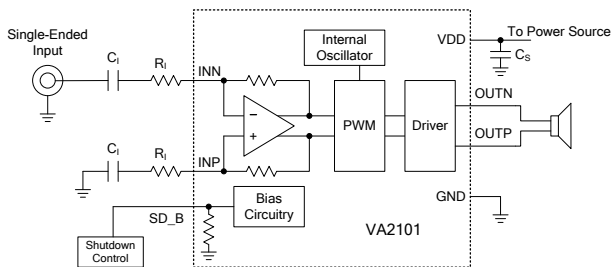

Figure 4. Single-Ended Input Configuration
The VA2101CSG9 can also be used with single-ended signal sources, but input capacitors shall be added to block DC voltage at the input terminals. The typical single-ended configuration is shown in Figure 4. Use equation (1) to calculate the gain and set the frequency response by equation (2). Hold for the single-ended configuration as shown in Figure 4.